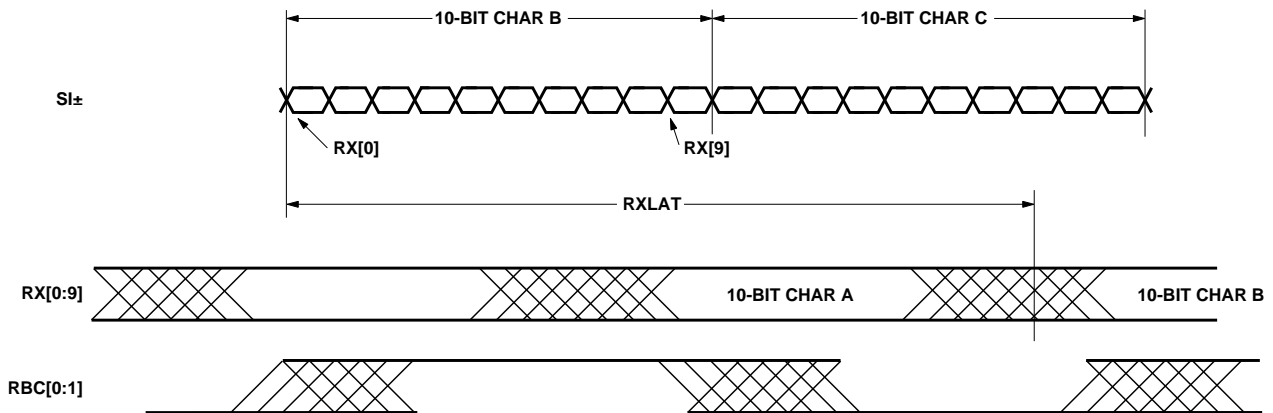

Figure 6. Receiver latency. First bit on SI_{\pm} drives $RX[0]$.
3. The receiver latency, as shown in Figure 6, is defined as the time between the leading edge of the first received serial bit of a parallel data word and the leading edge of the corresponding parallel output word.